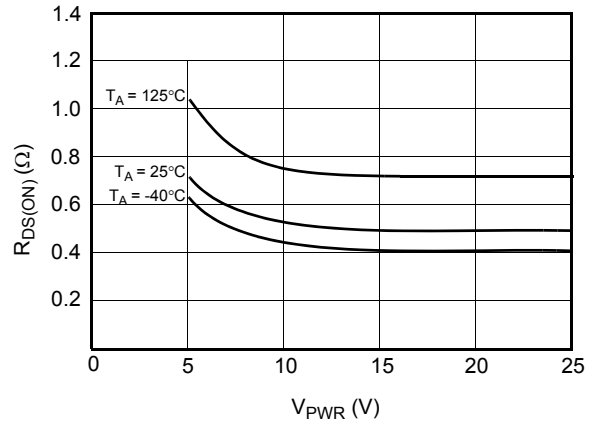

**Figure 4. SPI Timing Characteristics**
The Serial Input (SI) pin is used to enter one of seven serial instructions into the 33999. SI SPI bits are latched into the Input Shift register on each falling edge of SCLK. The Shift register is full after 24 bits of information are entered. The 33999 operates on the command word on the rising edge of  $\overline{\text{CS}}$ . To preserve data integrity, exercise care to not transition SI as the SCLK transitions from high-to-low state (see Figure 4, page 9).